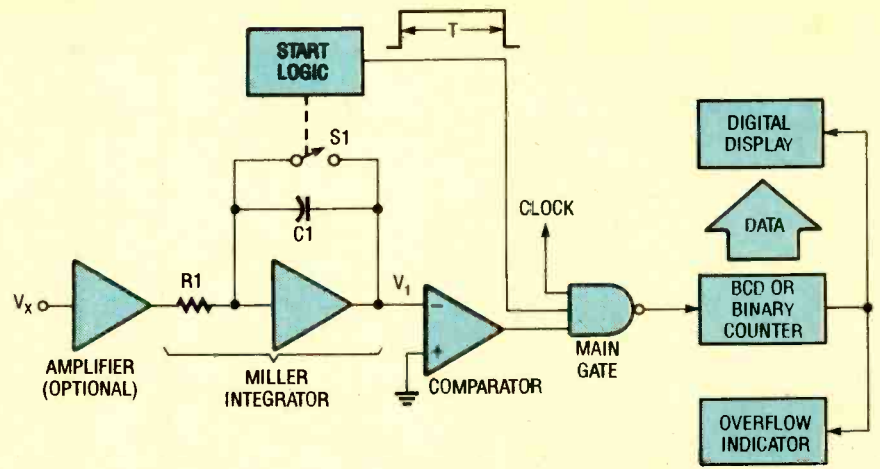

Fig. 1. A meter with a single-slope integrator design, like that shown here can be accurate, but not in situations where a lot of noise is present.
An example of a single-slope integrator is shown in Fig. 1. The principal components of this circuit are an input amplifier, a Miller integrator, a comparator, a main gate, and a binary counter. The input amplifier may or may not be used in any given single-slope integrator. It is optional, and is merely used to scale the input signal to a level that optimizes the operation of the integrator circuit—too-small a signal would take a long time to charge the integrator capacitor. For the sake of discussion, we will assume that the input amplifier has a gain of unity, so the input
**The Transmitter.** A schematic diagram for the transmitter section of the Solar Cell Communicator is shown in Fig. 1. The circuit is essentially a microphone-fed audio amplifier—consisting of R2, R3, R4, and U1 (which is configured for inverting operation)—whose output is fed to the base of a general-purpose transistor. (The microphone in this case is a headphone speaker, but for simplicity and clarity, we'll continue